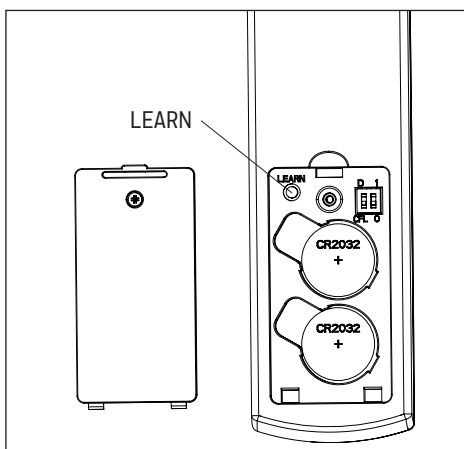

Figure 6.1
1. LEARN - Syncs remote to receiver (see TROUBLESHOOTING for instructions). **Note:** To access LEARN button, remove battery door from back of the remote using a Phillips-head screwdriver (Figure 6.1).
Remote does not work.	<ol style="list-style-type: none"> 1. Power surge may have cleared the memory and remote needs to be resynced to the receiver. Syncing instructions: Turn off the power at the breaker box for at least 10 seconds and then turn the power back on. Within 30 seconds, press and hold the "LEARN" button (Figure 6.1) on the back of the remote for 3 seconds. The fan will turn on at high speed and light will blink twice and stay on, signaling a successful synchronization. 2. Insert new CR2032 batteries in battery compartment of the wall control. 3. If there are several remote fans in proximity, turn the power off to those fans and re-sync the fan.